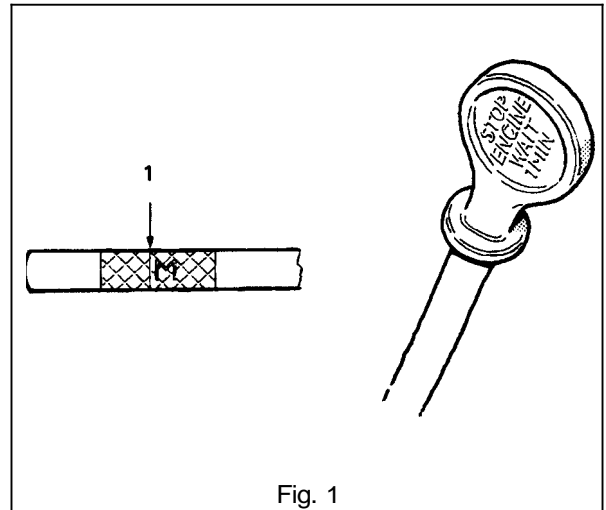

Fig. 1
- (Fig. 1), check the oil level - replenish as necessary.